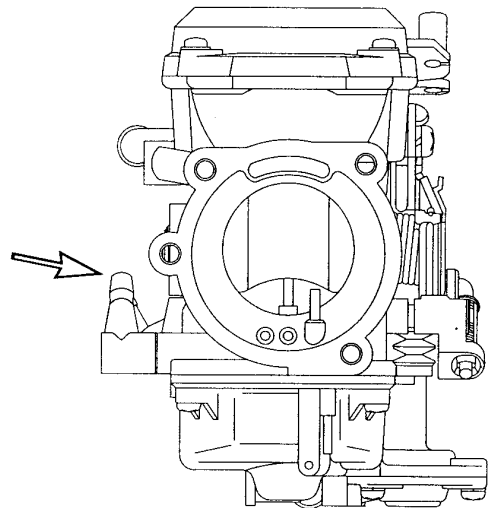

Figure 1-64. Carburetor Fuel Hose Connection
13. See Figure 1-64. Connect the fuel hose to the carburetor using **new** clamp and HOSE CLAMP PLIERS (Part No. HD-97087-65B).